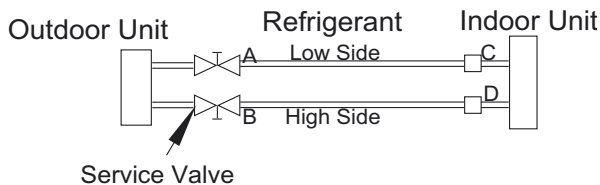

Fig. 12 – Service Valve
- 1 Completely tighten all flare nuts and connect manifold gage charge hose to a charge port of the low side service valve (see Fig. 12).